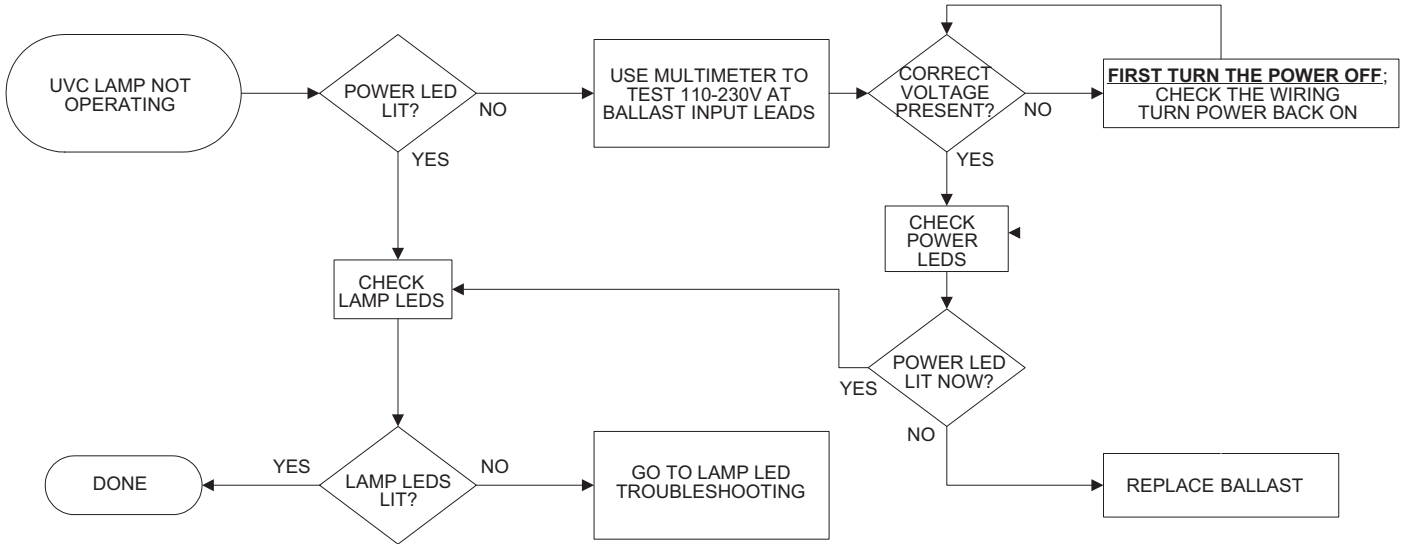
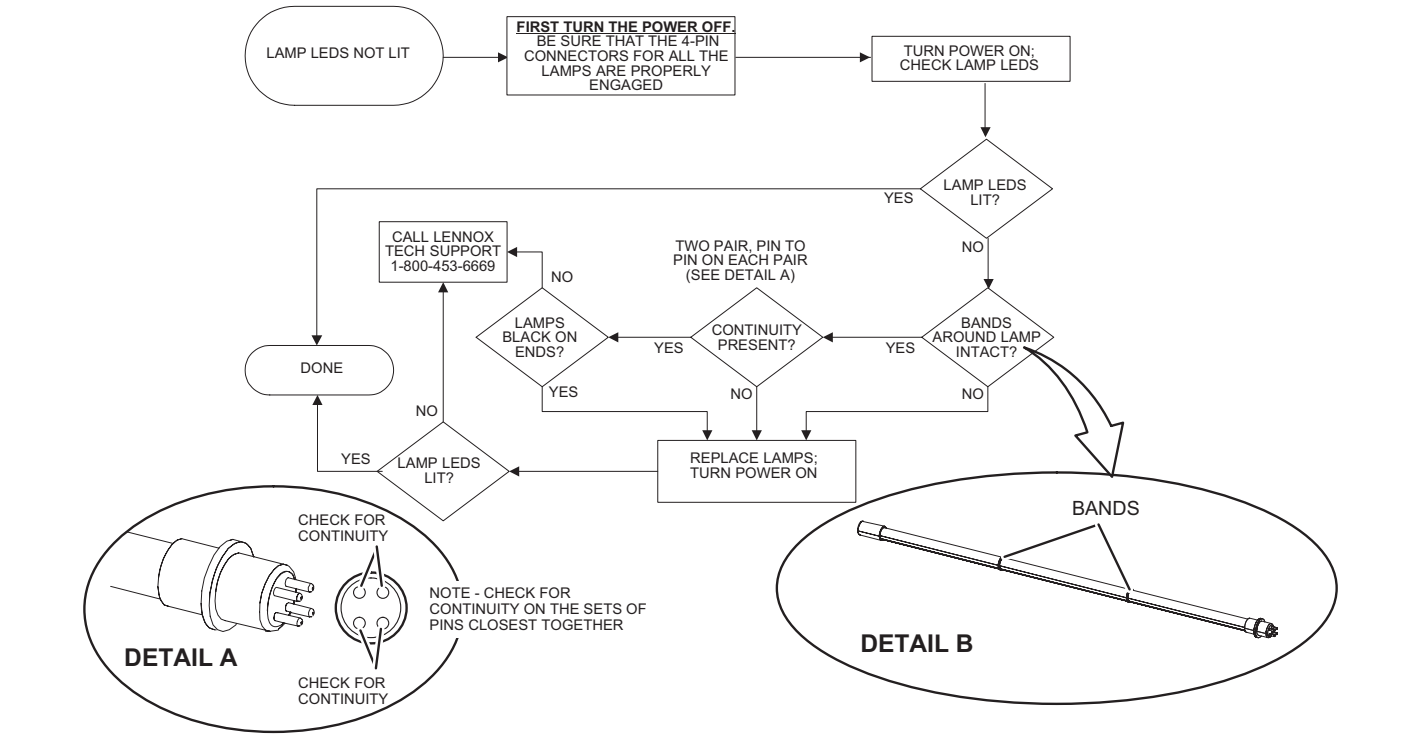

FIGURE 39
FIGURE 40
- 2 - Ohm-check across the lamp pins to check for continuity of lamp filaments (see FIGURE 40).
Troubleshooting charts are provided to aid in determining the cause of any problems encountered (FIGURE 39 and FIGURE 40).